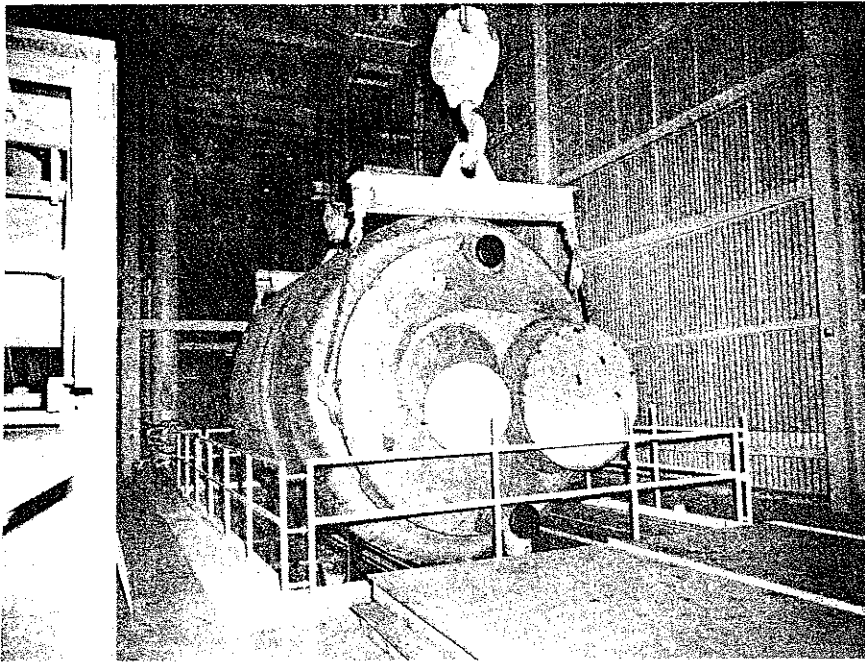

FIG. 7 BUILDING HATCH
- g. When converter is removed directly from the building, move it to building hatch and lower onto a special Birmingham Lowboy Trailer. Transport it to the designated area (MEP-329) (Figs. 7, 8)